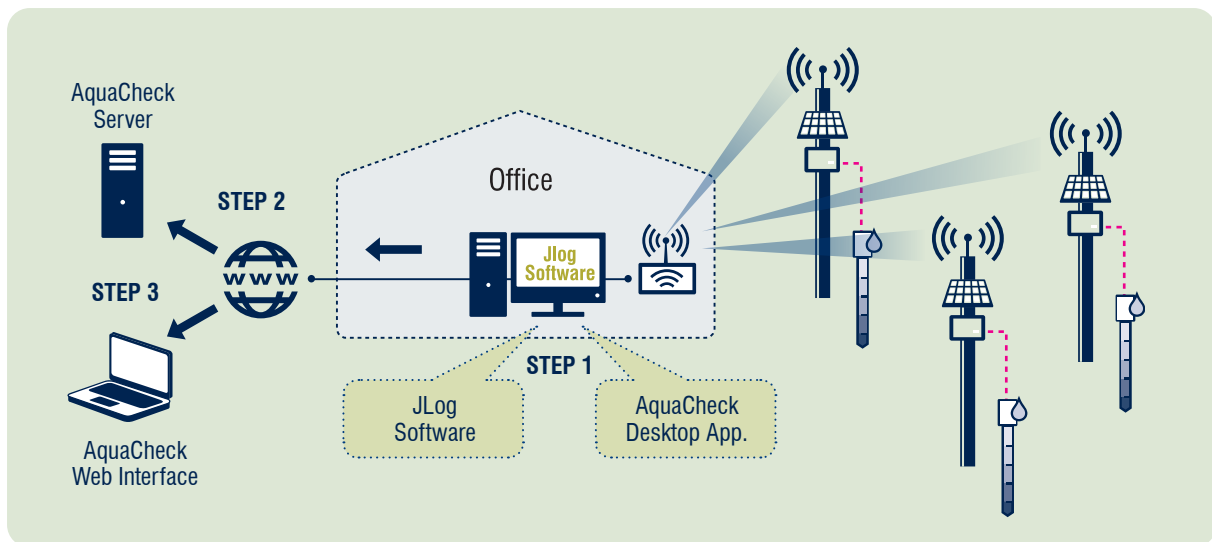

Figure2: Jabeco Moisture Monitoring System - Web Application
- Web Based application, as shown in Figure 2: